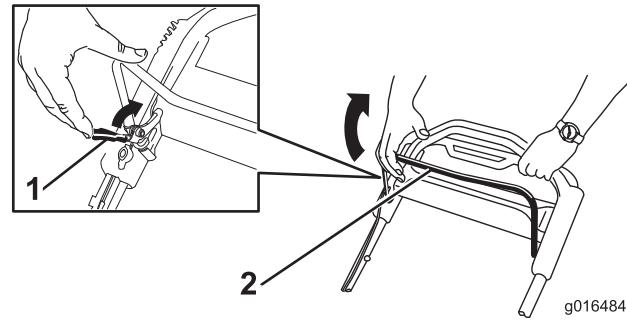

Figure 23
2. Slowly pull the blade-control bar back to the handle (Figure 23).
1. Pull the blade-control-bar lock back to the blade-control bar (Figure 23).